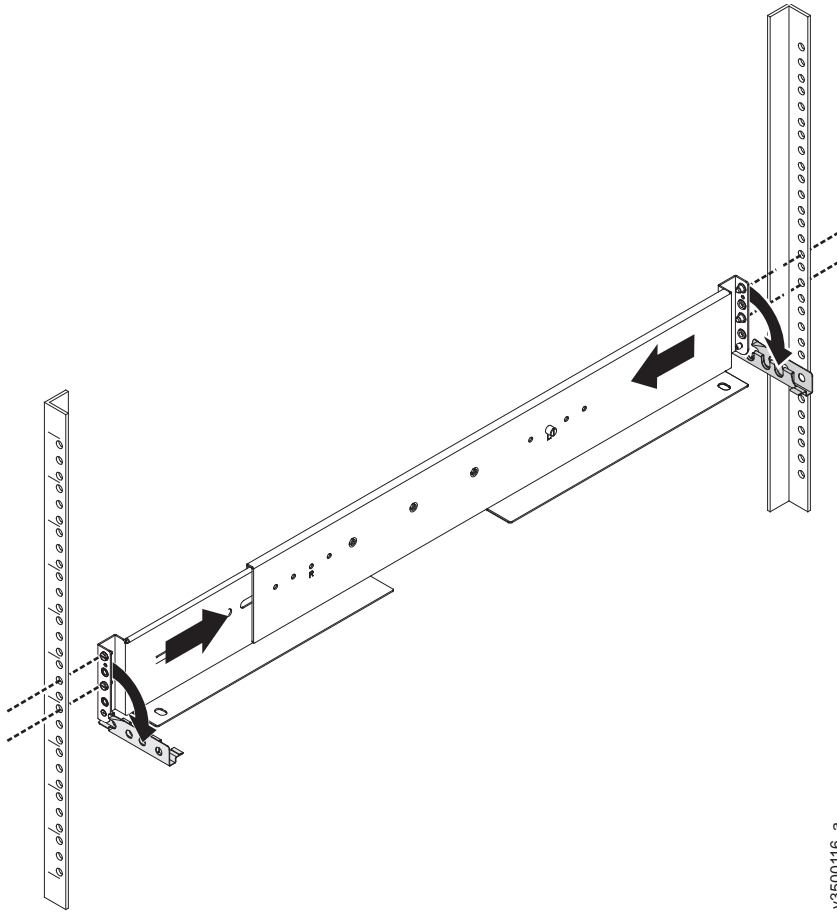

Figure 41. Compressing rail for removal from rack
11. Compress the rail against its spring to shorten it, then remove it from inside the rack (Figure 41 on page 179).